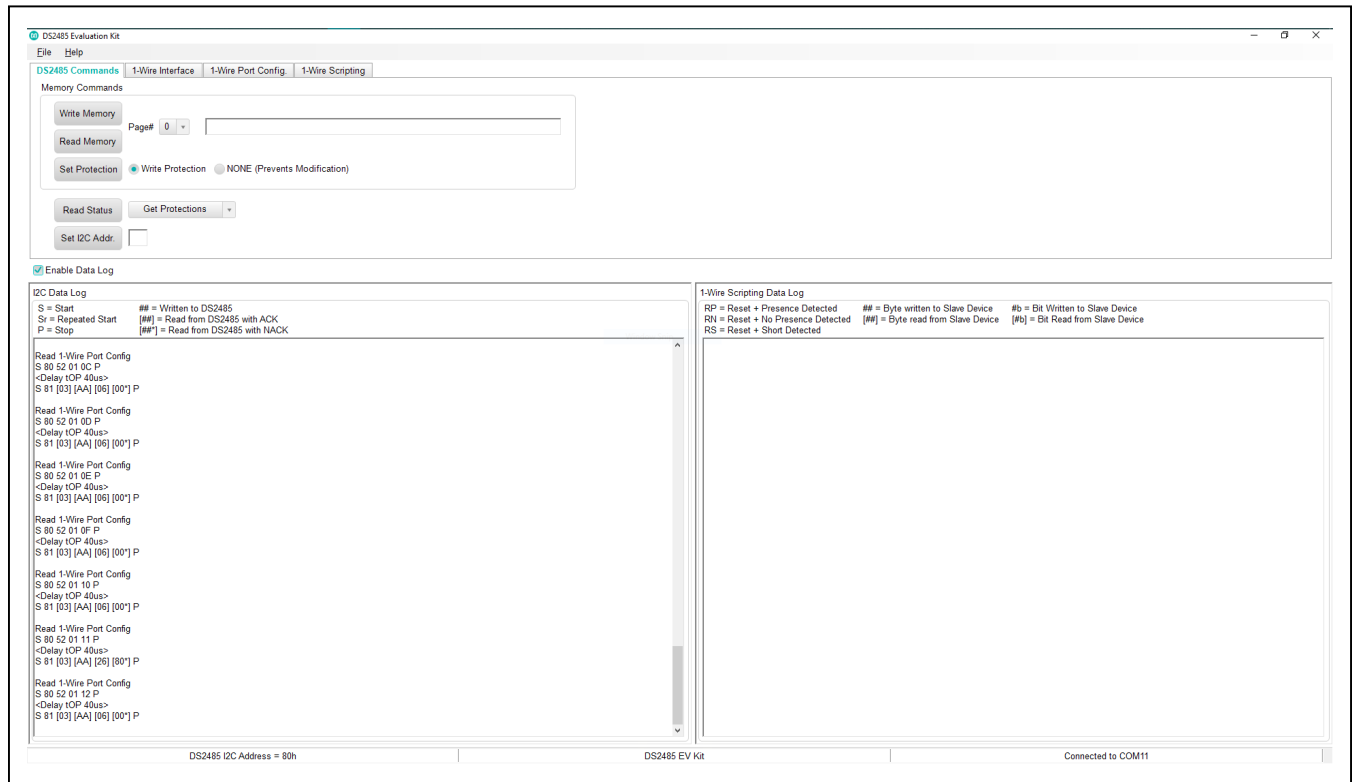

Figure 3. DS2485 Evaluation Kit Software
- 14) The EV kit software will automatically start after installation completes (Figure 3).